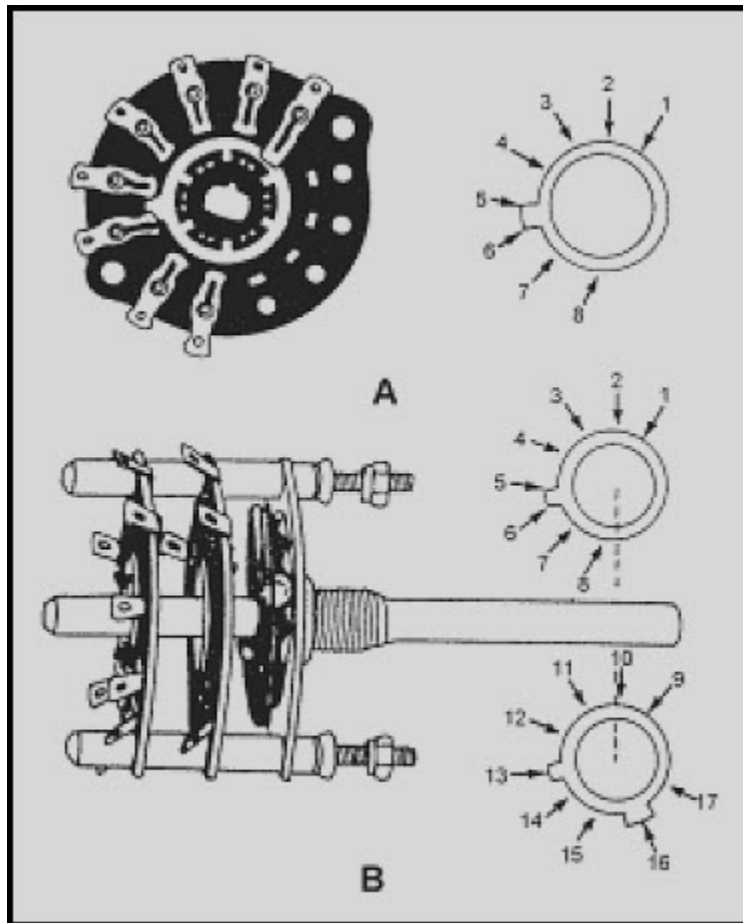

Figure 3-9 Wafer switch
Figure 3-9(A) shows one wafer of a wafer switch and its schematic symbol. Contact 1 is the point at which current enters the wafer. It is always connected to the movable portion of the wafer. With the wafer in the position shown, contact 1 is connected to both contact 5 and 6 through the movable portion. If the movable portion was rotated slightly clockwise, contact 1 would only be connected to contact 5. This arrangement is known as MAKE BEFORE BREAK because the switch makes a contact before breaking the old contact.
Figure 3-9(B) is an illustration of the entire switch and its schematic symbol. Since the switch has two wafers mechanically connected by the shaft of the switch, the shaft rotates the movable portion of both wafers at the same time. This is represented on the schematic symbol by the dotted line connecting the two wafers.
The upper wafer of the schematic symbol is the wafer closest to the control mechanism, and is identical to the wafer shown in figure 3-9(A). When switches have more than one wafer, the first wafer shown is always the wafer closest to the operating mechanism. The lower wafer on the schematic diagram is the wafer farthest away from the operating mechanism. Contact 9 of this wafer is connected to the movable portion and is the point at which current enters the wafer. In the position shown, contact 9 is connected to both contact 13 and 16. If the switch is rotated slightly clockwise, contact 9 would no longer be connected to contact 13. A further clockwise movement would connect contact 9 to contact 12. This arrangement is called BREAK BEFORE MAKE. Contact 9 will also be connected to contact 15 at the same time as it is connected to contact 12.